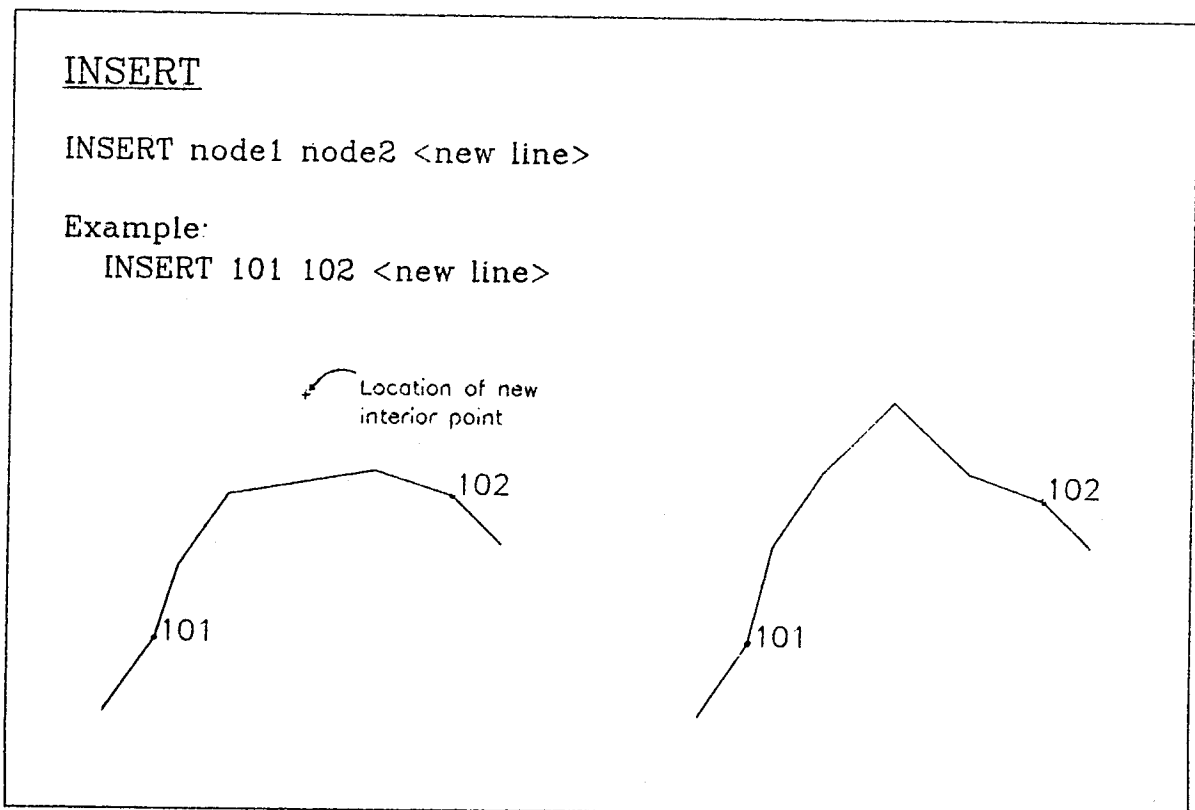

Figure 3. The INSERT Command
To insert one or more interior points in the sequence for an arc between node1 and node2. Insertion of the point is selected by the cursor with cursor control characters, to exit (E) or specify the last point (L). Points are inserted between the closest point to the location selected, and the closer of that (closest) points next neighbors. Can also be done for island for type arc. An interior point is inserted when a node is needed at an exact location and an interior point was not digitized at that location, or when the shape of an arc needs to be modified. If the modification is extensive, for more accuracy and better use of time, it is recommended to digitize it instead. See Figure 3.